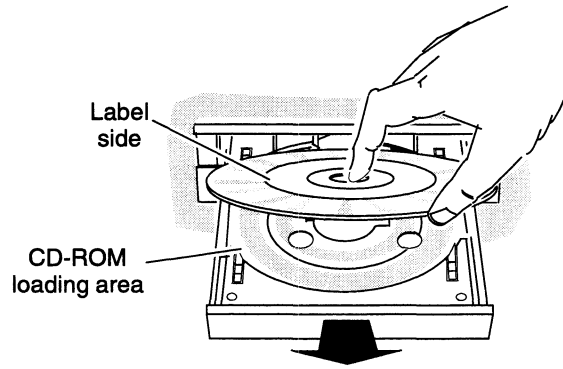

Figure 11 Inserting a CD-ROM into the loading area of the drawer
3. Place the CD-ROM into the drawer's loading area with its label side up (Figure 11). Avoid touching the unlabeled surface of the CD-ROM.
1. Make sure the CD-ROM is not upside down in the drive. Refer to Figure 11 or 14 for the proper way to insert the CD-ROM in the drive.